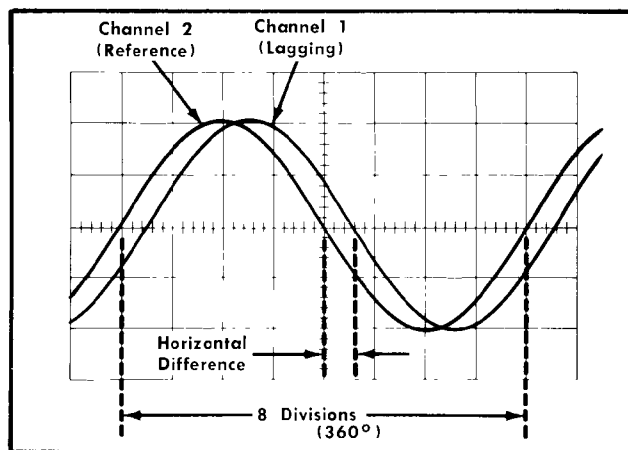
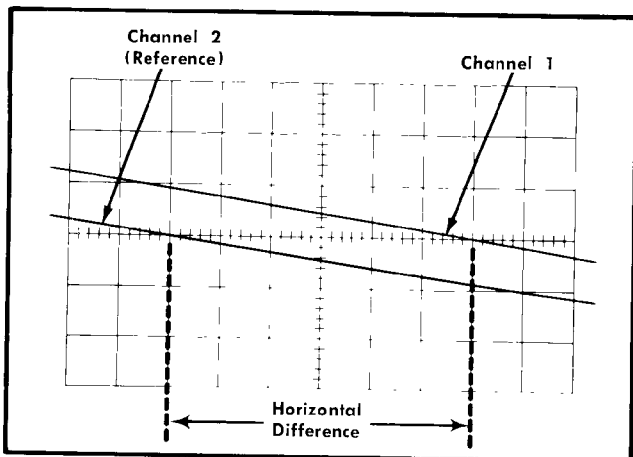

Fig. 2-8. Measuring phase difference.
Fig. 2-9. High resolution phase-difference measurement with increased sweep rate.
10. Turn the variable sweep rate control until one cycle of the reference signal (Channel 2) occupies exactly eight divisions between the first and ninth graticule lines (see Fig. 2-8). Each division of the graticule represents 45° of the cycle ( $360^\circ \div 8 \text{ division} = 45^\circ/\text{division}$ ). The sweep rate can be stated in terms of degrees as 45°/division.
Example. Assume a horizontal difference of 0.6 divisions with a sweep rate of 45° as shown in Fig. 2-8.
Example. If the sweep rate were increased 10 times with the magnifier, the magnified sweep rate would be  $45^\circ \div 10 = 4.5^\circ/\text{division}$ . Fig. 2-9 shows the same signals as used in Fig. 2-8 but with the magnifier switch set to  $\times 10$ . With a horizontal difference of six divisions, the phase difference would be: